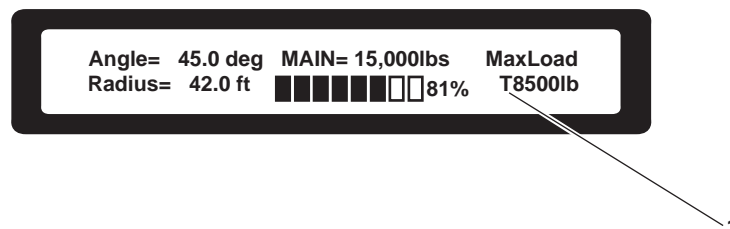

Figure 46. Primary Operating Display Screen with Tare Enabled
- Press the MODE button (figure 17, item 3) and the down arrow button (figure 17, item 4) on the LMI receiver panel (figure 17, item 2) to return to the primary operating display (figure 25). The primary operating display will show the letter T (figure 46, item 1).